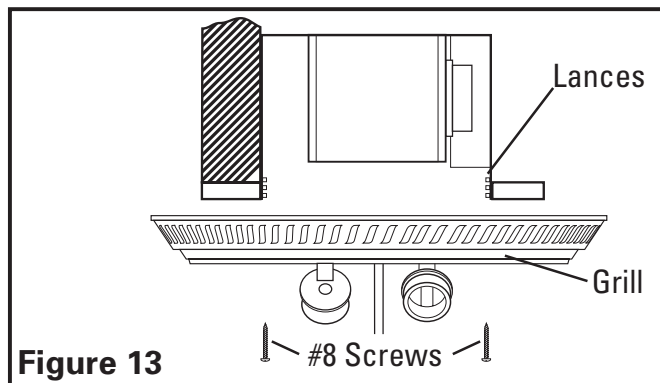

Figure 13
- Line up slots in the grill with lances on inside of housing. Insert included #8 screws through grill slots and into housing lances. Tighten both screws until the grill fits snugly to the ceiling. DO NOT OVER TIGHTEN (**Figure 13**).